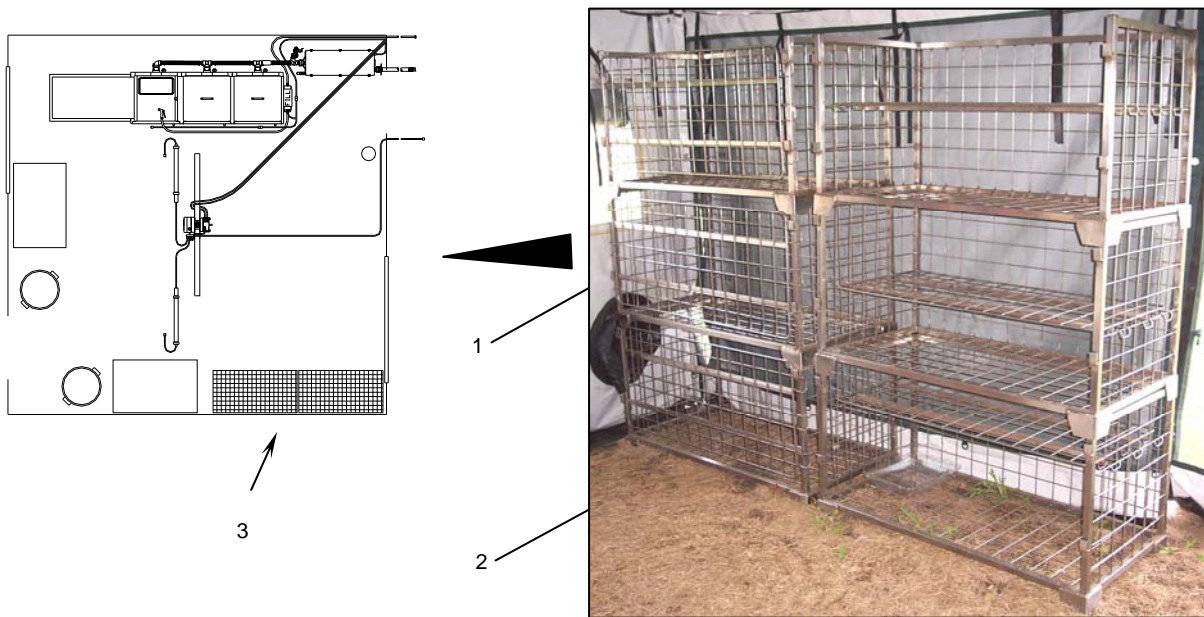

Figure 9. Setting up the Storage Rack Assemblies.
- a. Remove the rack cover/shelf (**Figure 9, Item 1**) from the front of each rack if so installed.
- b. Install the cover/shelf as a shelf (**Figure 9, Item 2**) in each rack. Install each shelf approximately half the height of the rack by tipping the shelf, hooking one end through the grating that makes up a side of the rack, and then lowering and hooking the other end through the opposite side grating.
- c. Place the racks in the corner of the tent (**Figure 9, Item 3**) away from the doors and opposite where the sinks will be installed.